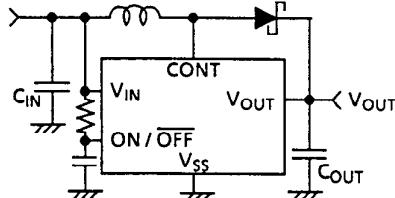

Figure 18
- When the shutdown terminal is connected to the V_{IN} terminal, confirm that the deviation of V_{IN} terminal voltage is not lower than the V_{SL} level. If the deviation is lower than that level, insert a CR filter circuit into the shutdown terminal, as shown in Figure 18. Also when the shutdown terminal is connected to the V_{OUT} terminal, the IC may not work (step-up) because of voltage drop by coil and diode at power-on. So, when using with $V_{OUT} = \text{ON/OFF}$, apply a sufficient high supply voltage.